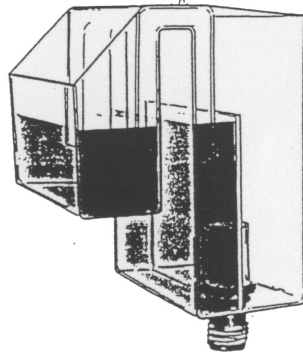
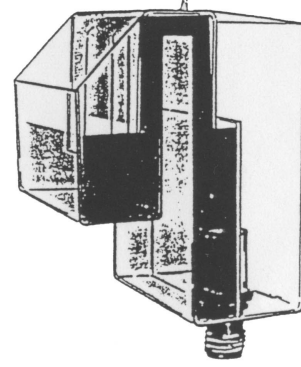

Fig. 3
Fig. 4
5. Fill front chamber with aquarium water (Fig. 3). To start the overflow, draw air out of the overflow box. This can be done by connecting an air tube to the nipple on top of the unit. The air can be removed by either connecting the tube with a powerhead pump or by sucking on it until flow starts (Fig. 4).